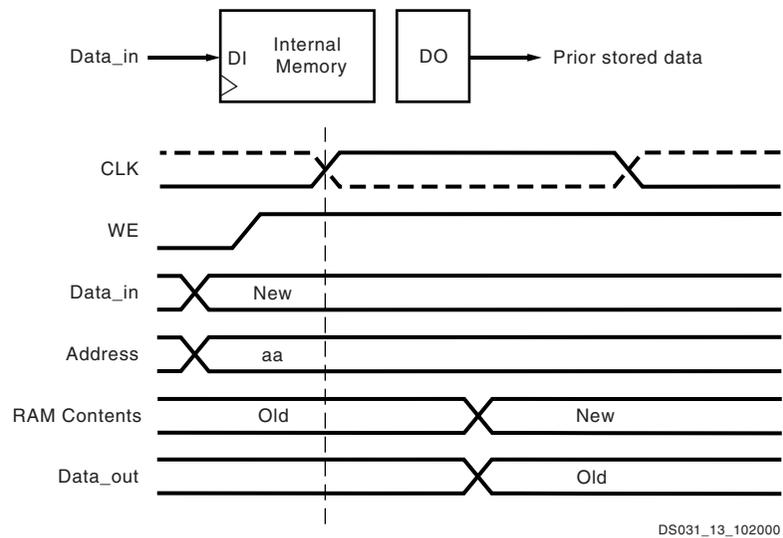

Figure 30: **READ_FIRST Mode**
The same clock edge that writes data input (DI) into the memory also transfers the prior content of the memory cell addressed into the data output registers DO, as shown in **Figure 30**.